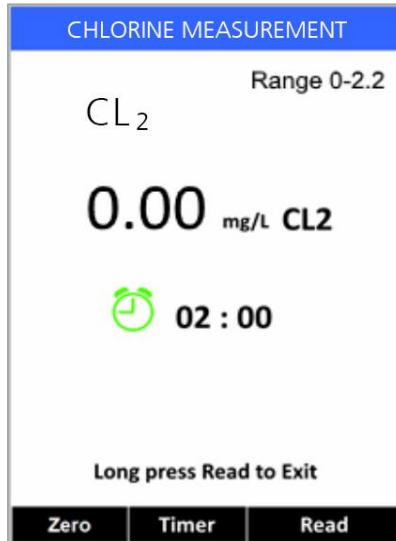

Figure 1. Chlorine Measurement
1. Click **MEASURE** button (labeled with <), until the caption over the left button highlights **Chlorine**. Click the **OK** button to launch chlorine measurement page as Figure 1.
- Click **MEASURE** button (labeled with <), until the caption over the left button highlights **Chlorine**. Click the **OK** button to launch chlorine measurement page as Figure 1.